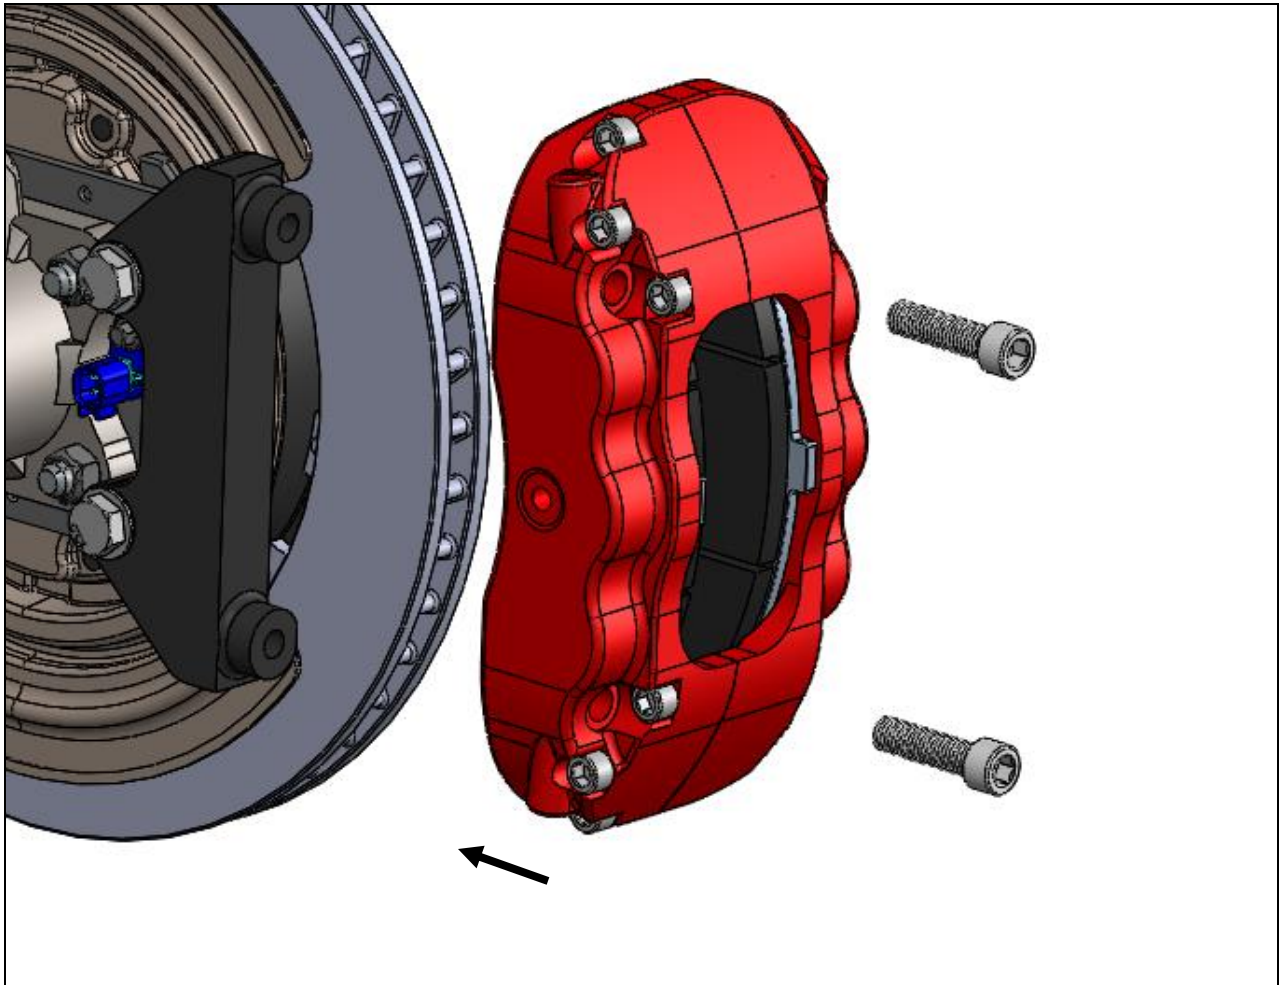

Figure 5: Caliper Installation-Pads Installed for Reference
7. With the pads removed, install the new caliper (bleed screw pointing upward) using the supplied M12-1.75 x 45mm socket head bolts. Snug the bolts for now as shimming will require removal. See Figure 5 for reference (pads are shown in the figure for assembly purposes).